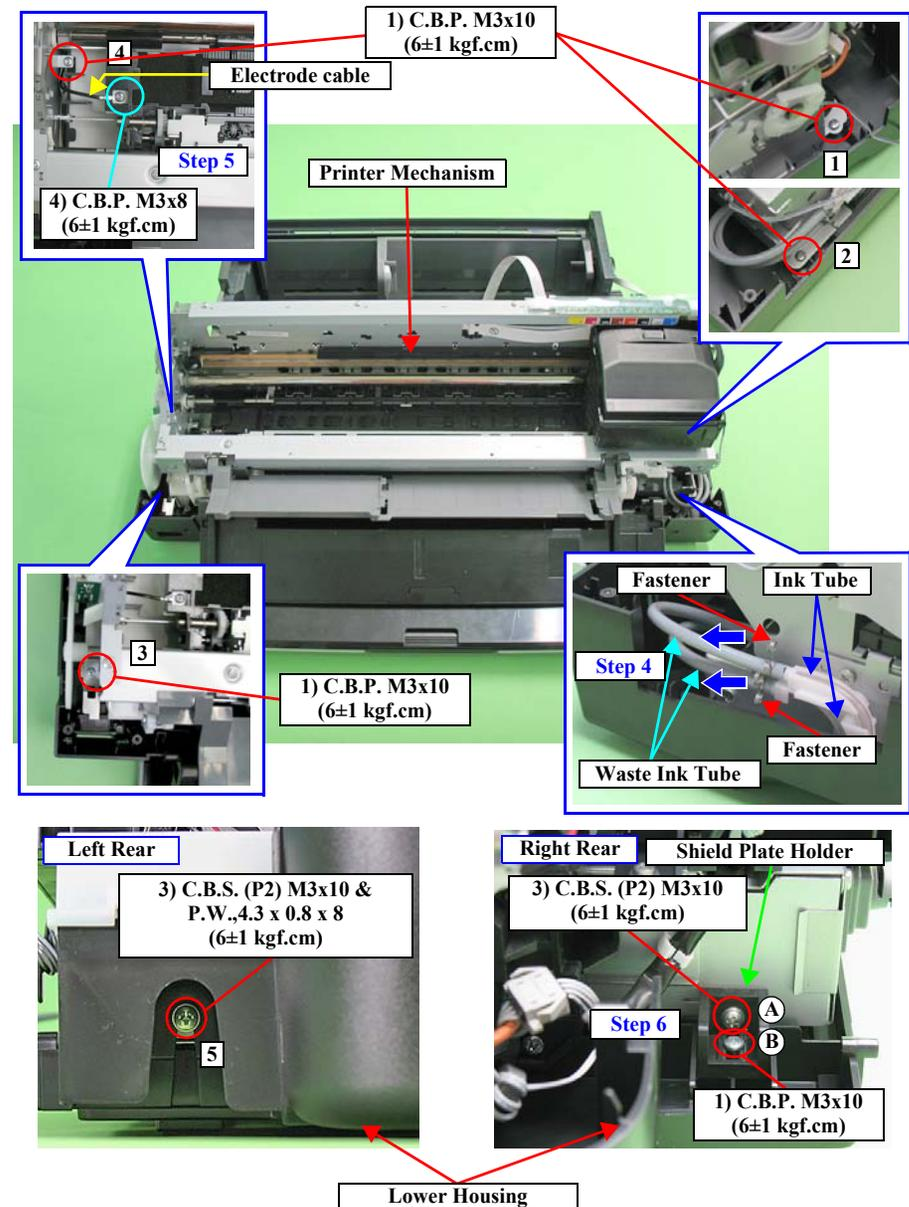
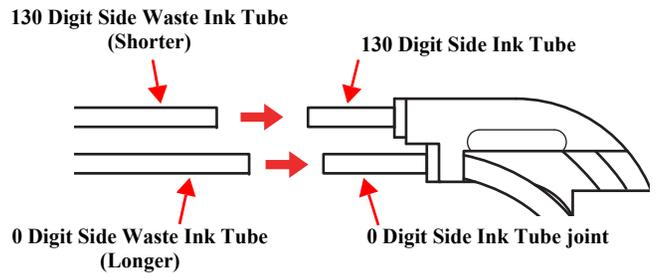

Figure 4-62. Screws that Secure the Printer Mechanism
Figure 4-64. Installing the Ink Tubes
■ Insert the Waste Ink Tube as shown in the figure below, and secure it firmly with the Fastener. (refer to Figure 4-62 & Figure 4-64)
■ Install the Printer Mechanism to the Lower Housing as follows. (refer to Figure 4-62)
2. Place the Printer Mechanism on the Lower Housing and secure the Shield Plate Holder and the Printer Mechanism with the screw (A).
4. Secure the Printer Mechanism and Lower Housing with screws (x5). (Tighten the screws in the order shown in Figure 4-62)